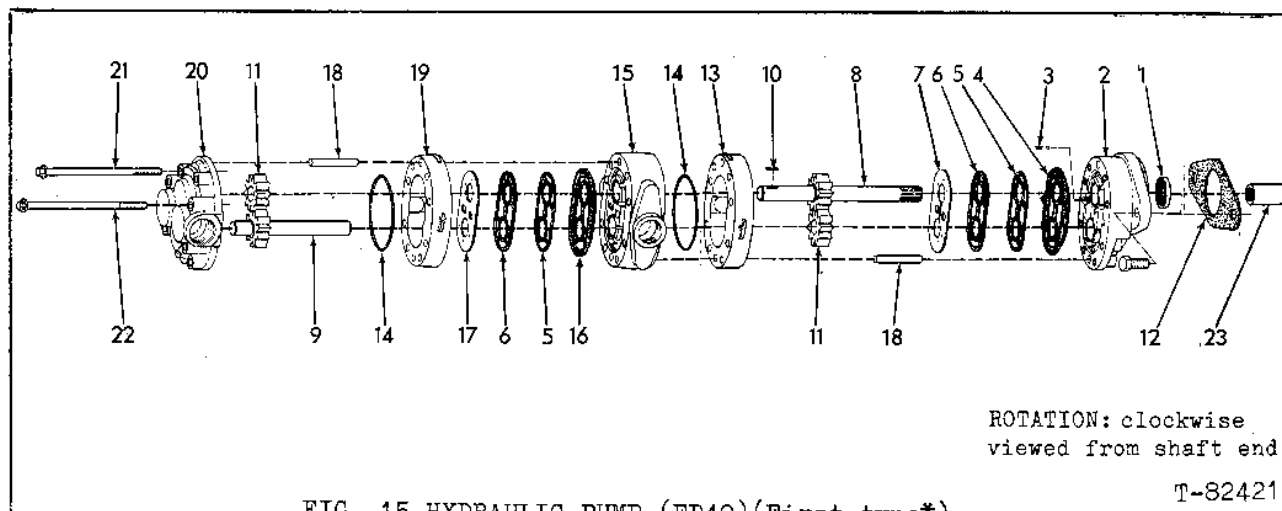

FIG. 15 HYDRAULIC PUMP (FD40)(First type*)
Mark position of pump gear, Fig. 15 (9, 11); slide idler gear from shaft and pull drive gear from key in shaft. Remove key (10), center body (15) and front gear body (13). Separate center body and front gear body; remove and discard o-ring (14).
Mark position of remaining pump gear, Fig. 15 (8, 11); remove idler gear (11). Pull drive shaft (8) from front plate (2).
Remove diaphragms, Fig. 15 (7) (17), diaphragm gaskets (5) (6), and diaphragm seals (4) (16) from center body and front plate; remove springs and balls (3) from front plate. Remove drive shaft oil seal (1) from front plate.